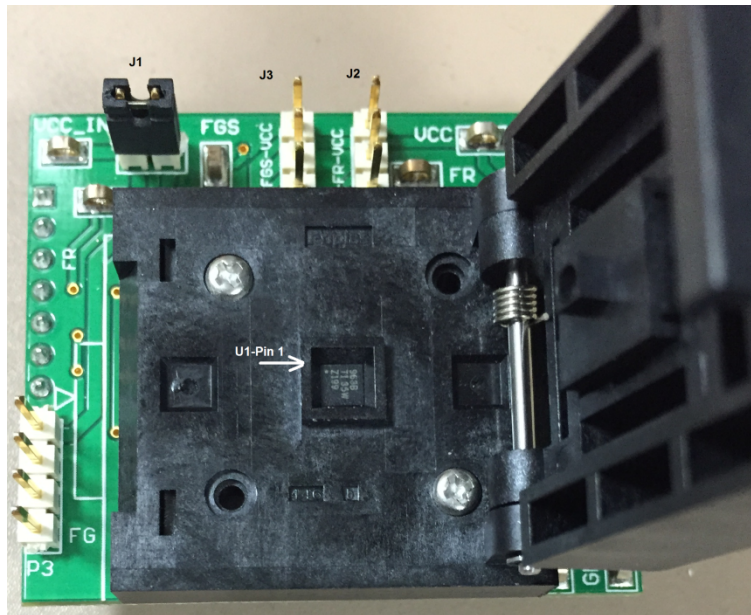

Figure 3. DRV10963 Orientation Inside Daughterboard Socket
- The DRV10963 device is properly inserted with right orientation at the socket in the daughter card as per Figure 3, referred to as U1.